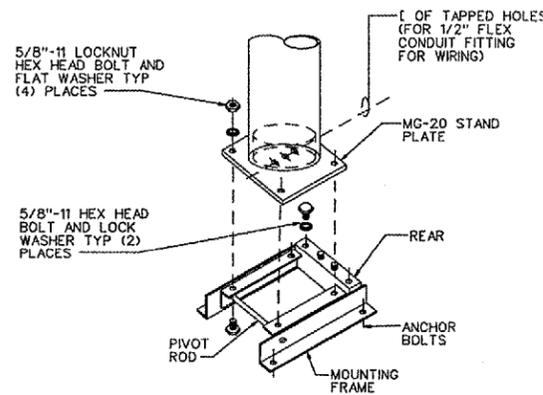
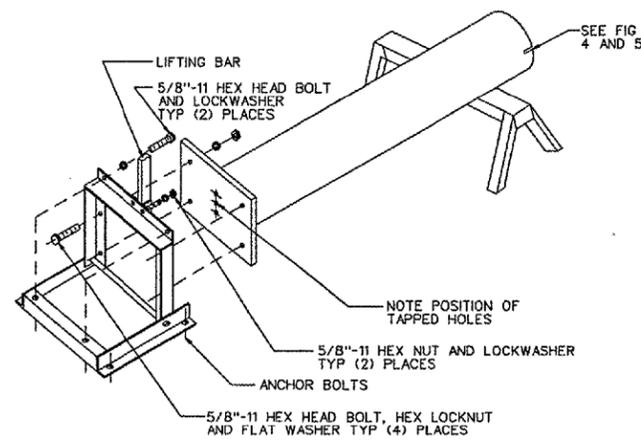

FIGURE 2. MOUNTING STAND ASSEMBLY MG-20
FIGURE 3. MG-20
- INFO:** POLE BASE ADHESIVE TO BE FURNISHED BY THE CONTRACTOR SHALL BE CHEMLOCK 304, PARTS 1 AND 2 - MANUFACTURED BY: LORD CORPORATION, CHEMICAL PRODUCTS GROUP, ERIE, PA., TEL (814) 868-3611.
- MATERIAL:** LIR TUBE (FIG. 2): FILAMENT WOUND GLASS REINFORCED PLASTIC.
- ASSEMBLY INSTRUCTIONS: IMPORTANT - ALL LIR STRUCTURES ARE TO BE ASSEMBLED IN A HORIZONTAL POSITION (SEE FIG. 3). (ELECTRICAL WORK NOT SHOWN HERE). MG-20: USE MOUNTING STAND ASSEMBLY SHOWN IN FIG. 2. SET MOUNTING STAND ON ANCHOR BOLTS, SHIM TO LEVEL. FASTEN WITH (4) 3/4" NUTS. REMOVE 2 5/8" BOLTS AT REAR OF MOUNTING STAND ASSEMBLY AND PIVOT INNER SECTION UP TO VERTICAL POSITION. PLACE STAND PLATE (BOTTOM OF POLE) OVER (4) 5/8" STUDS IN MOUNTING STAND AND FASTEN WITH HEX NUTS. NOTE POSITION OF TAPPED HOLES IN STAND PLATE.